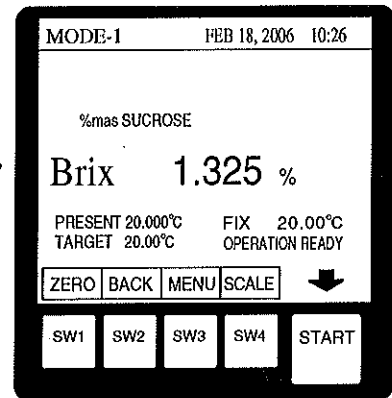
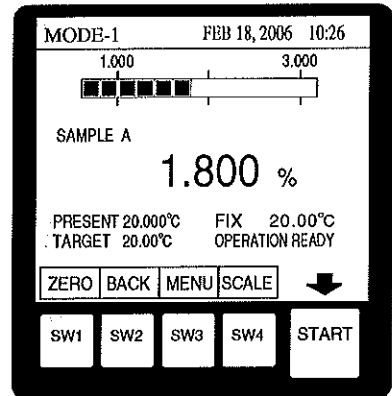

Fig. 12-16
Fig. 12-17
e) The display will change and indicate "READING..." when the temperature (PRESENT) reaches the preset temperature (TARGET), and then 20 seconds later will change again to the measurement reading screen as shown in Fig.12-16, Fig.12-17, or Fig. 12-18. If the digital printer, DP-RX (optional), is connected, it will print out the measurement results. The measurement has now been completed successfully.